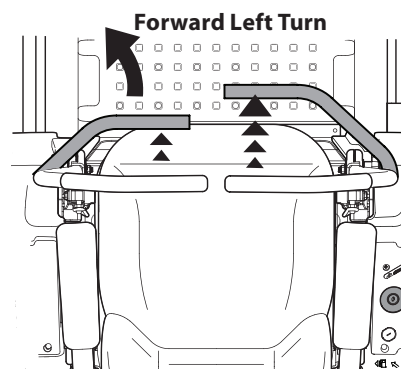

Figure 26
- To turn to the left, move the left drive control lever rearward of the right lever. See Figure 26.